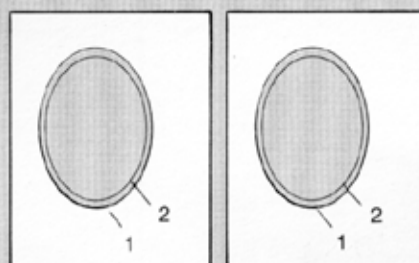

Fig. 2
1. Cut the large opening (A) in top color mat. Set a scale $\frac{1}{4}$ " larger (use stops) and cut the inlay.
2. Save all fallout. (Fig. 2)